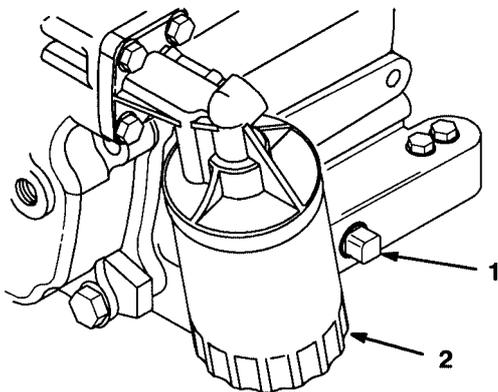

Figure 23
3. Remove the drain plug (Fig. 23) and let oil flow into the drain pan. When the oil stops, install the drain plug.
4. Remove the oil filter (Fig. 23). Apply a light coat of clean oil to the new filter gasket.